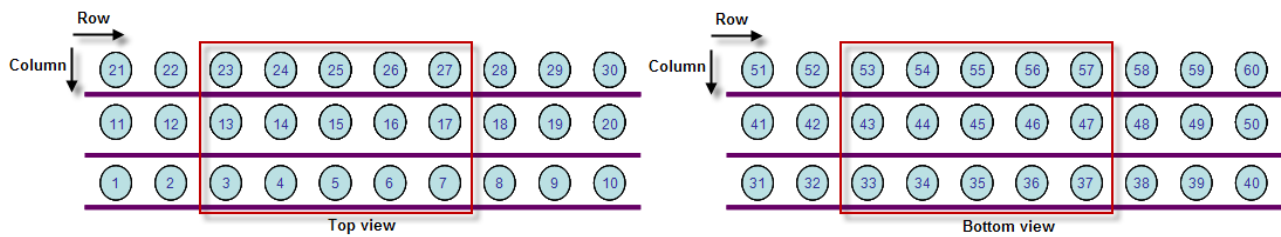
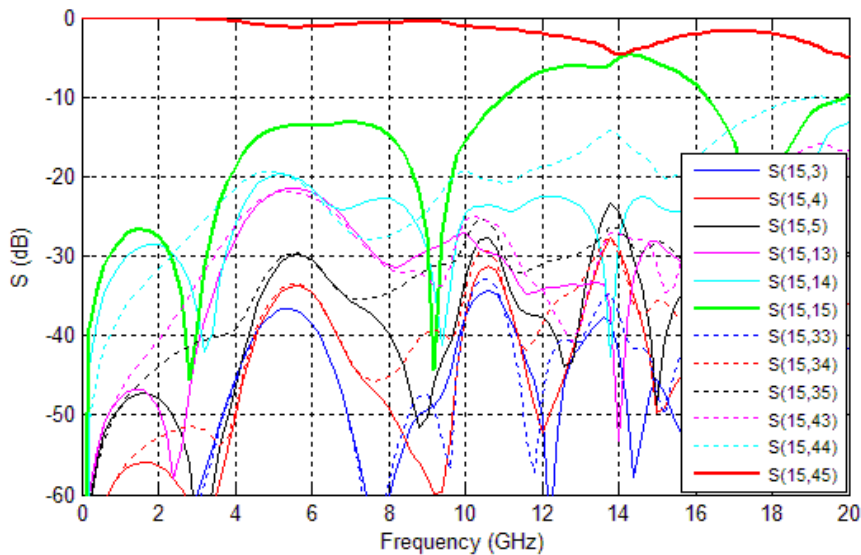

Figure 73 Single-ended pin assignment
Figure 74 S-parameters for port 15 of connector only
A 60-port single-ended Touchstone file was used as described in Section 3.1.1. The single-ended pin assignment is shown in Figure 73. For our analyses, we consider ports 3-27 and ports 33-57. Figure 74 shows the corresponding S-parameters for port 15, where the insertion loss (IL), return loss (RL), and crosstalk can be clearly seen, and are summarized in Table 20.